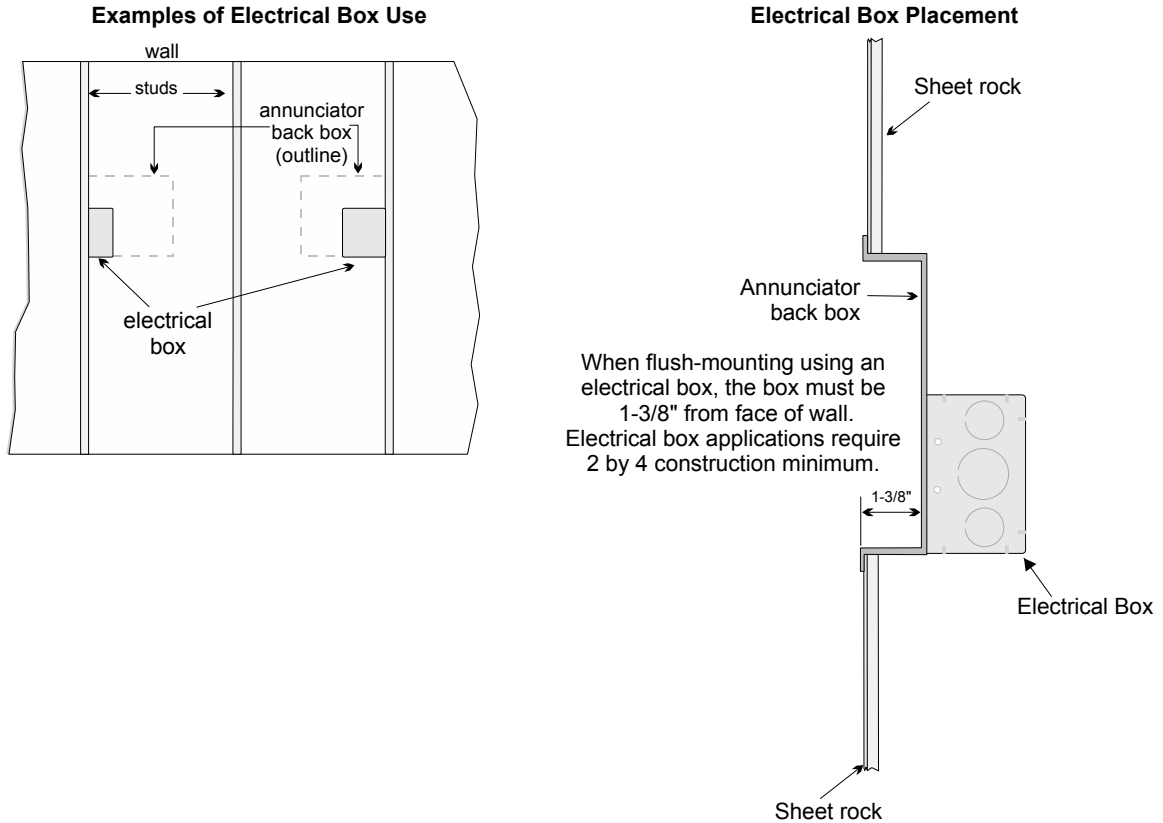

Figure 4.21 Placement of Electrical Box for Flush Mounting
1. Cut a hole in the sheet rock to the following dimensions: 8-1/4" w x 6-5/8" h. If an electrical box is used, the box must be 1-3/8" back from face of wall to accommodate the annunciator (see Figure 4.21).